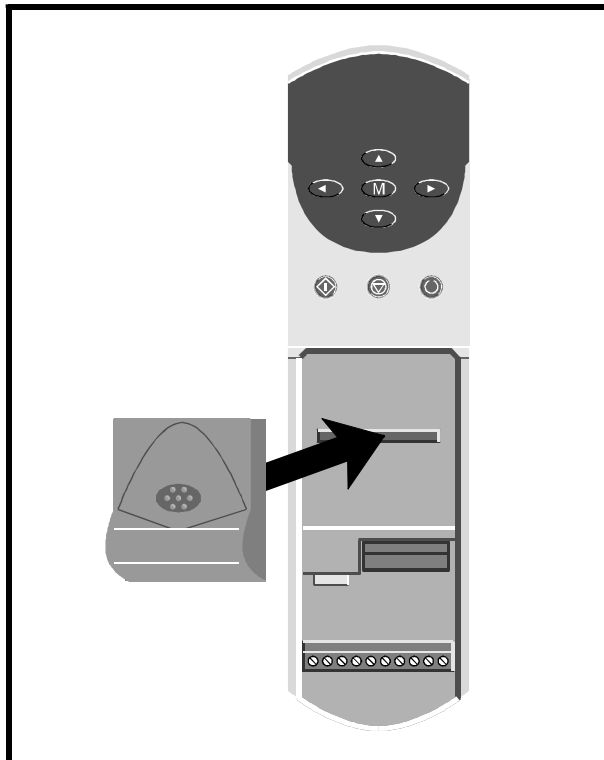

Figure 1 *Installing the UD50 in the Unidrive*
- 4 Position the multi-way connector on the rear of the UD50 over the connector in the Drive (see Figure 1), and press on the thumb pad to push the UD50 into place.